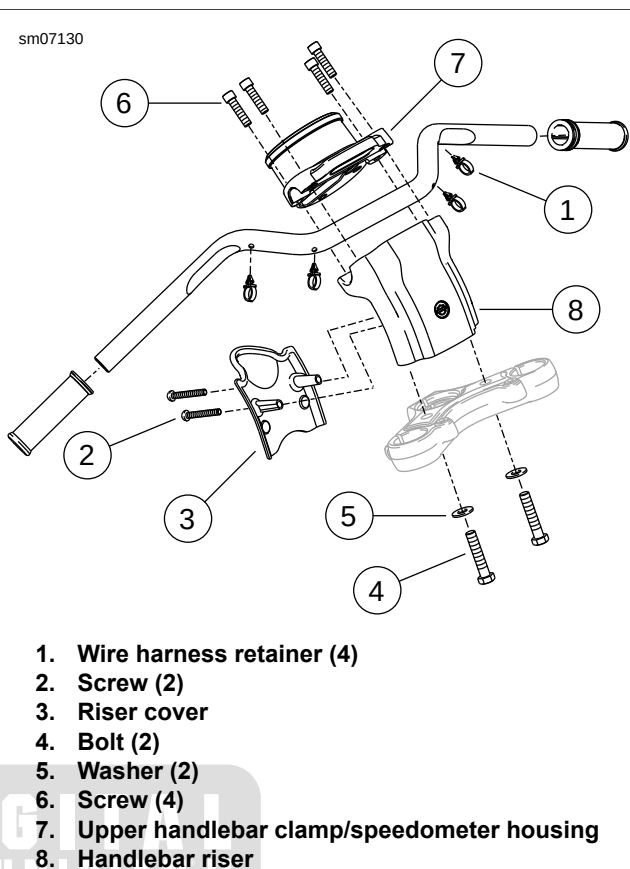

Figure 2-186. Handlebar: XL 1200C/C ANV/CP Pull Back
1. See Figure 2-186. Cut and remove four wiring harness retainers (1). Discard retainers.
3. Remove two screws (2) and riser cover (3).
4. Remove four screws (6) and upper handlebar clamp/speedometer housing (7). Detach handlebar from riser.
6. If removing riser (8), remove bolts (4), washers (5) and riser from upper fork bracket.
**Pull Back:** See Figure 2-186. See **Removal, XL 1200C/C ANV**.